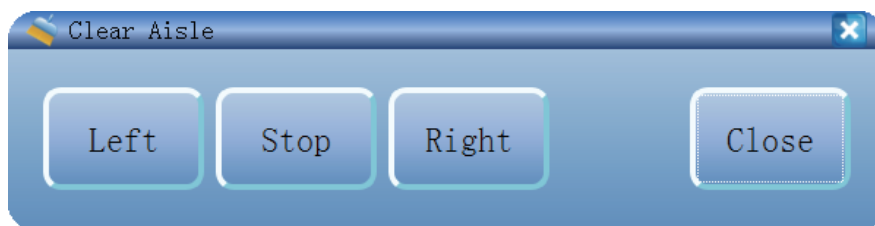

Figure 4.2 Prompt Interface of Clear Aisle
Step 4 As shown in figure 4.2, the software system will enter the interface of “clear aisle” and you may select the clear mode as per the prompt.
- After the clear is completed or if no clear step is required, click  on the interface of clear aisle or lightly press any key of special keyboard to enter the interface of “Set Fulls” as shown in figure 4.2.